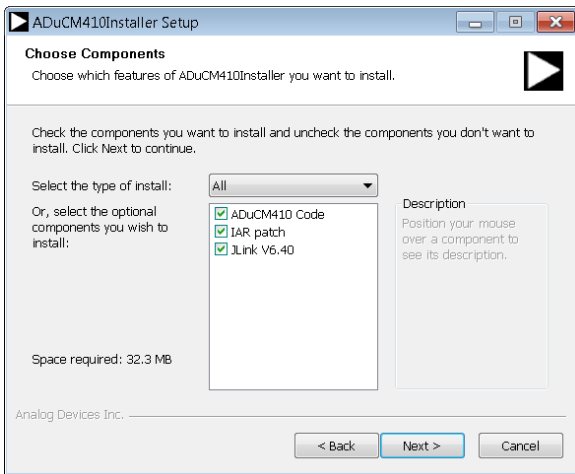

Figure 3. Installation Options
2. After downloading the ADuCM410 installer from [ftp://ftp.analog.com/pub/microconverter/ADucM410](http://ftp.analog.com/pub/microconverter/ADucM410), double click **ADuCM410Installer-V0.1.0.0.exe** and follow the instructions shown in Figure 3. The **ADuCM410-Installer Setup** window displays the installation method and component selection as shown in Figure 3. The end user license agreement (EULA) is displayed after proceeding through the **ADuCM410Installer Setup** window. Accepting the EULA extracts the installer, and rejecting the EULA cancels the installer.